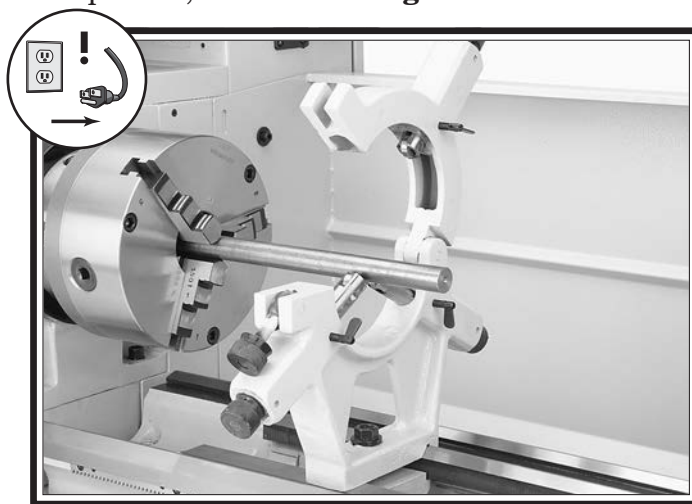

Figure 52. Workpiece mounted in the steady rest.
4. Loosen the clamp knob that secures the two halves of the steady rest and open the top portion, as shown in **Figure 52**.
6. Use the finger adjustment knobs to position the bottom two finger rollers against the workpiece, as shown in the example of **Figure 52**.